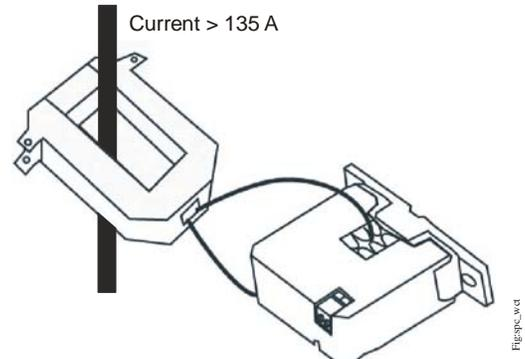

Figure 4: CTD Device with CT Transformer
1. Use a 5 A Current Transformer (CT) to reduce the current passing through the CTD device, as shown in Figure 4.